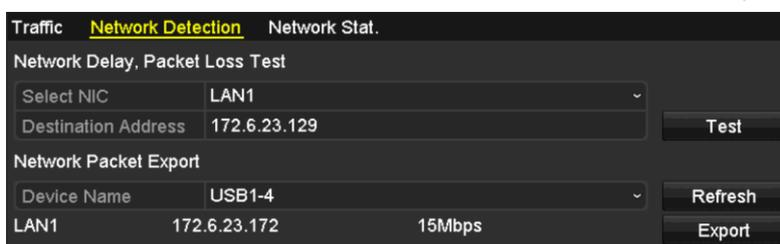

Figure 9. 23 Network Detection Interface
2. Click the **Network Detection** tab to enter the Network Detection menu, as shown in Figure 9. 23.